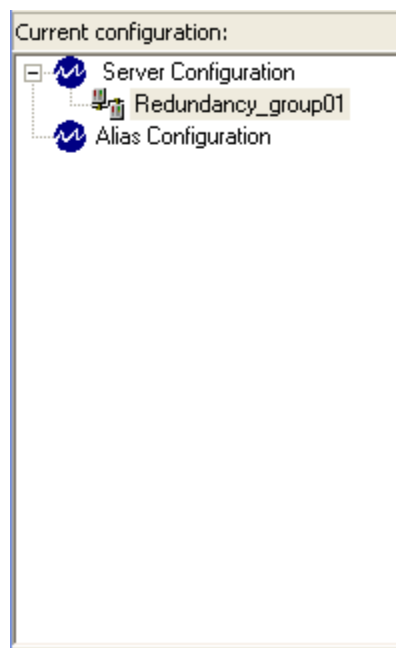

Figure 19 - New Redundancy Group Object
8. Click on the **OK** button. The object is created and appears as a child of the **Server Configuration** item as shown in Figure 19.